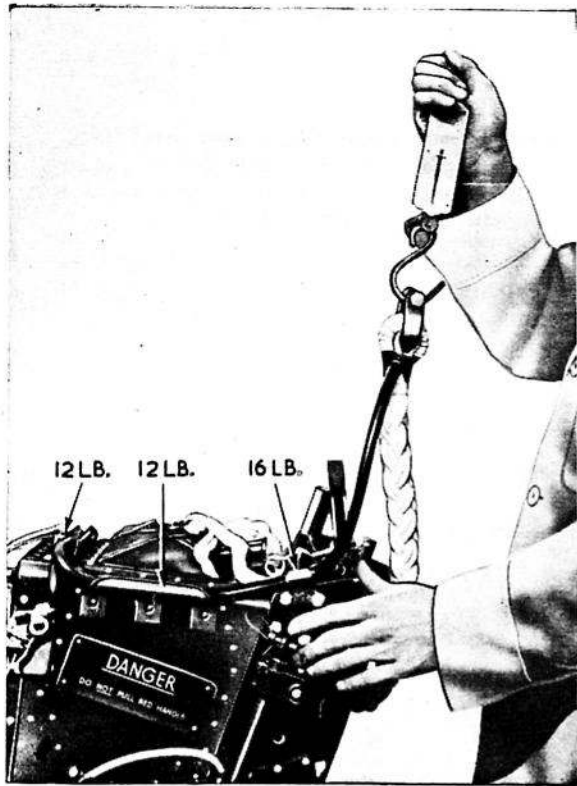

Fig. 16. Testing the lifting lines
- (2) Connect the spring balance to the drogue shackle and pull upwards. The lifting lines should not pull out of the first clip until the scale registers 16 lb. as indicated in fig. 16, and 12 lb. for the remaining clips. A tolerance of  $\pm 2$  lb. is permissible, and adjustments may be made by opening or closing the clips as necessary.